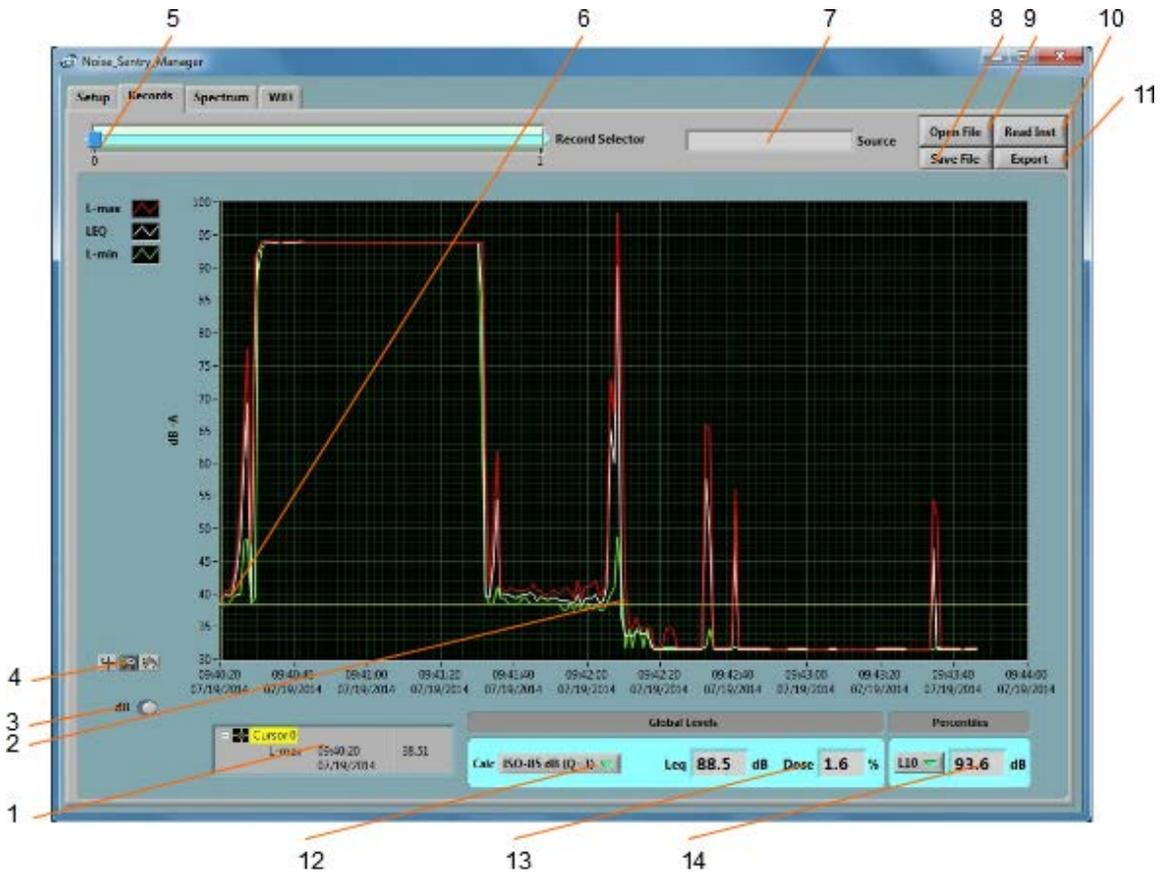

Figure 3 Record Tab
- **The Records Tab:** Is used to download, display and export the data from the `NSRTW_mk2` (see Figure 3).